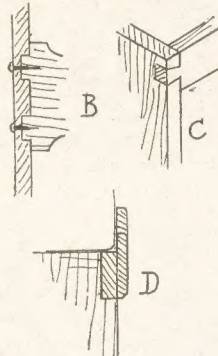

Fig. 2—Details of joints and construction
At the bottom of the sides cut two tenons, 2 ins. long, and spaced 1 in. from each side. These sides are now to be joined together by two top cross bars, and one lower down. The top ones are 1½ ins. wide and are cut from the 1 in. thick board. They are jointed across with a single dovetail, as at (C) in Fig. 2. Dovetails are really easy enough to mark out and cut, but a plain tongued-and-slotted joint could be substituted, if preferred, as long as a pin is driven through the joint from the top to prevent any tendency to draw apart.